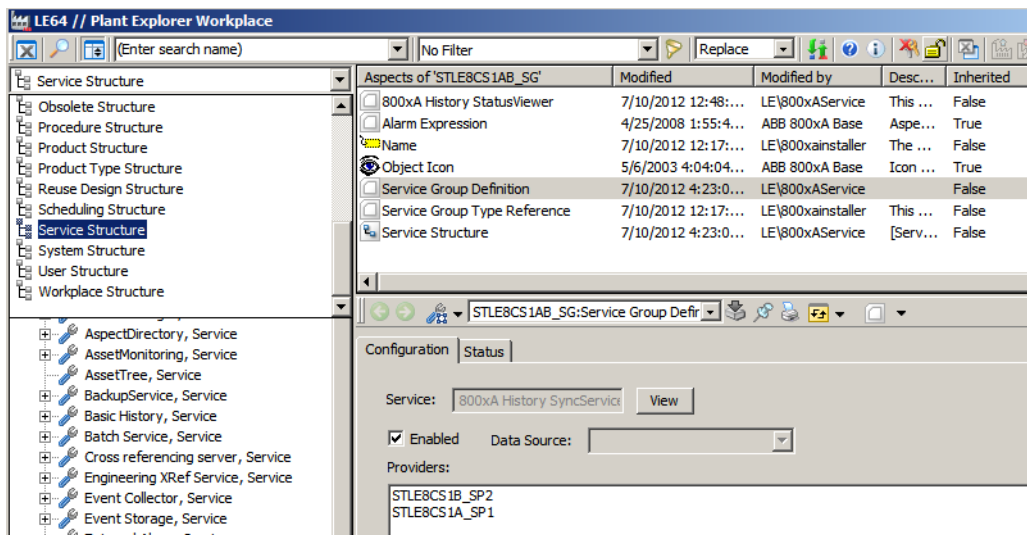

Figure 100. Service Structure in Plant Explorer Workplace
2. Click the left side, structure drop-down menu and click **Service Structure** in the menu item as shown in Figure 100
2. Click on the left side, structure drop down menu and select **Service Structure** in the menu item as shown in Figure 100.